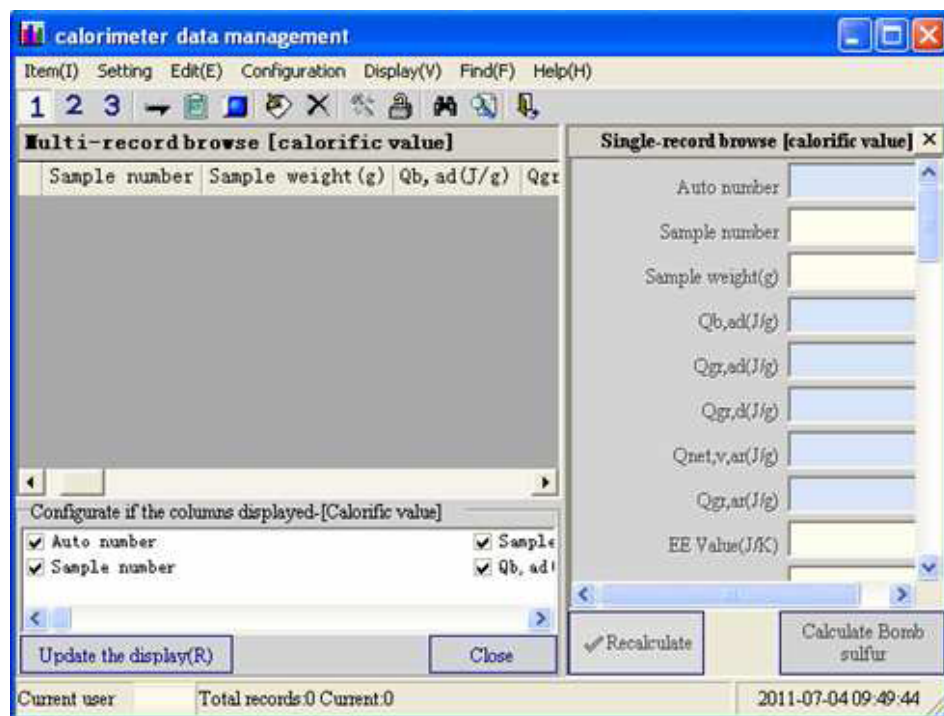

Fig.5-13
- Display the column?: It is used to allocate the columns allowed to be displayed in the current Multi-records browse window (shown as Fig. 5-13).